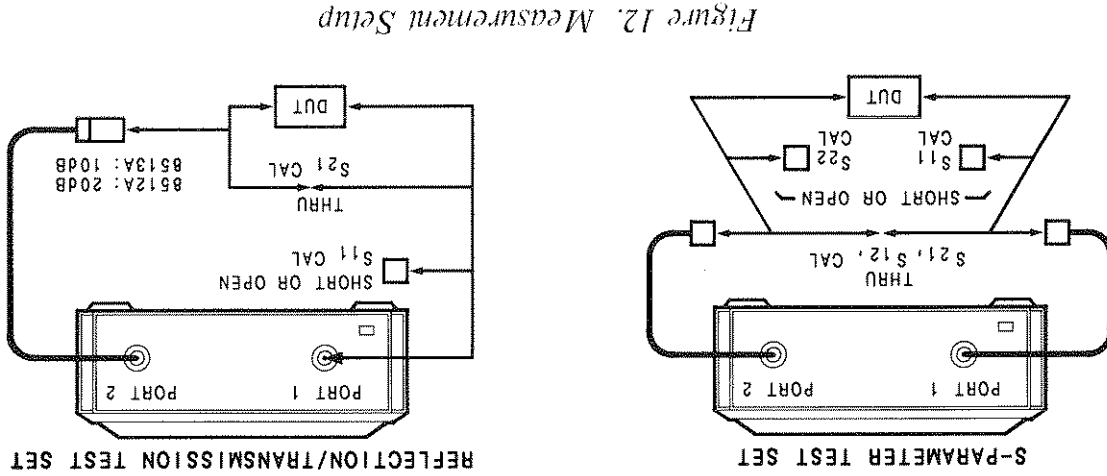

Figure 12. Measurement Setup
The measurement setup used in this introductory measurement sequence is shown in Figure 12. With reflection/transmission test sets, calibration and device measurements are done at Port 1 with an attenuator pad and a single test port return cable completing the connection to Port 2. With the HP 8512A reflection/transmission test set (7mm) use the HP 8492A-020 20 dB attenuator pad and the HP 85132A test port return cable. With the HP 8513A reflection/transmission test set (3.5mm) use the HP 8493C-010 10 dB attenuator pad and the HP 85131A test port return cable.
Calibration Setup. Begin measurement calibration by connecting the test port return cable(s) to the test port(s) of the test set. Then, if a reflection/transmission (HP 8512A, HP 8513A) test set is being used, connect the correct attenuator pad to the end of the cable. Details are shown in Figure 12.
- See Figure 12.